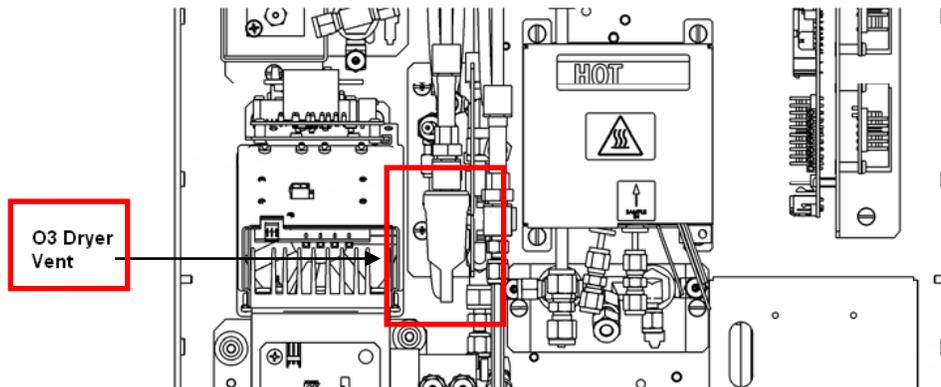

Figure 8 T200UP O3 Dryer Vent Location
1. Remove the top cover and cap the O3 dryer vent (see **Figure 8**, pg. 38).